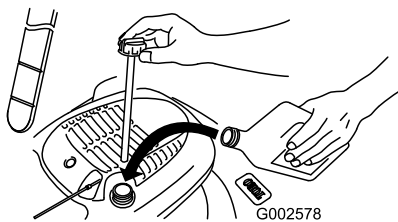

Figure 33
4. **Slowly** pour oil into the oil fill tube until the oil level reaches the **Full** line on the dipstick (Figure 33). **Do not overfill.** (Max. fill: 20 oz., type: SAE 30W detergent oil with an API service classification of SF, SG, SH, SJ, SL, or higher.)